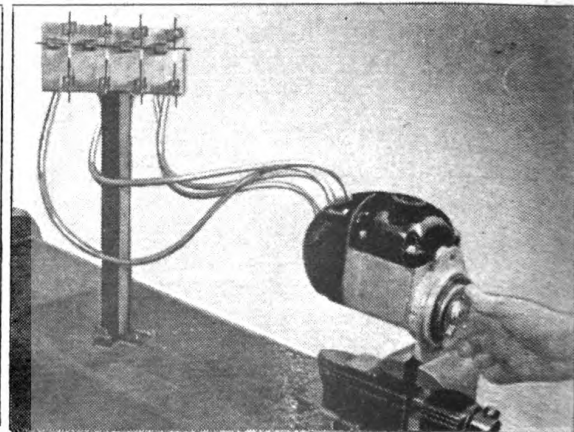

Fig. 40. Testing Magneto with Three-Point Spark Gaps Set at  $\frac{3}{8}$  Inch Jumps
2. The 4 spark plug wires from the distributor cap terminals should be attached to the four 3-point spark gaps which are set at  $\frac{3}{8}$  inch spark jump gaps. Fig. 40.
3. Turn the magneto by hand in the same direction as it revolves on the engine to see if there is sufficient spark to jump the  $\frac{3}{8}$  inch gap at all 4 terminals. Fig. 40. Also determine whether or not the impulse latches and trips freely like a new magneto. The latter is checked by feeling only, and the operator must accustom himself to know how a correctly operating impulse feels.